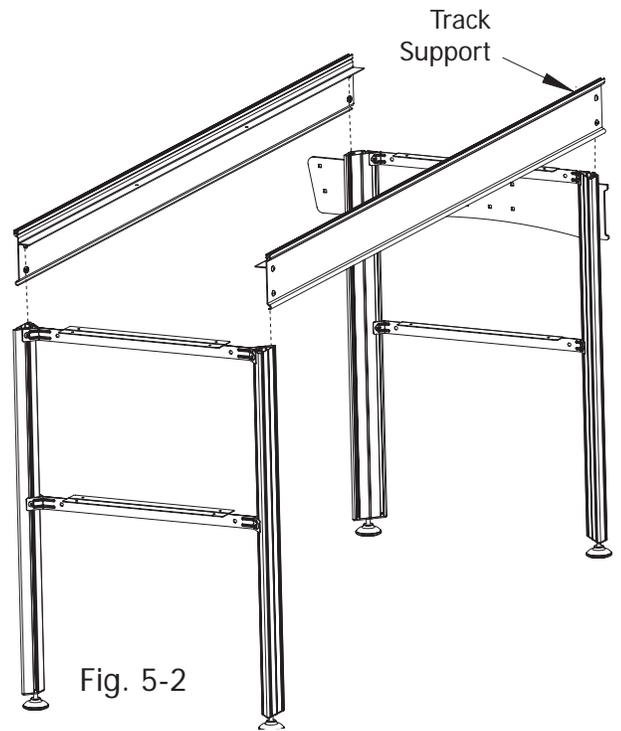

Fig. 5-2
6-3: Attach the other end of the Track Support to the Middle Leg, (part of the Table Sub-Assembly) by sliding the two (2) Square Nuts into the "T" slot in the Leg as done in Step 5-3, and as shown in Fig. 5-2. **(Leave all four (4) of the 6mm X 10mm SBHC Screws in the Middle Leg loose. They will be tightened in Step 9-2)**